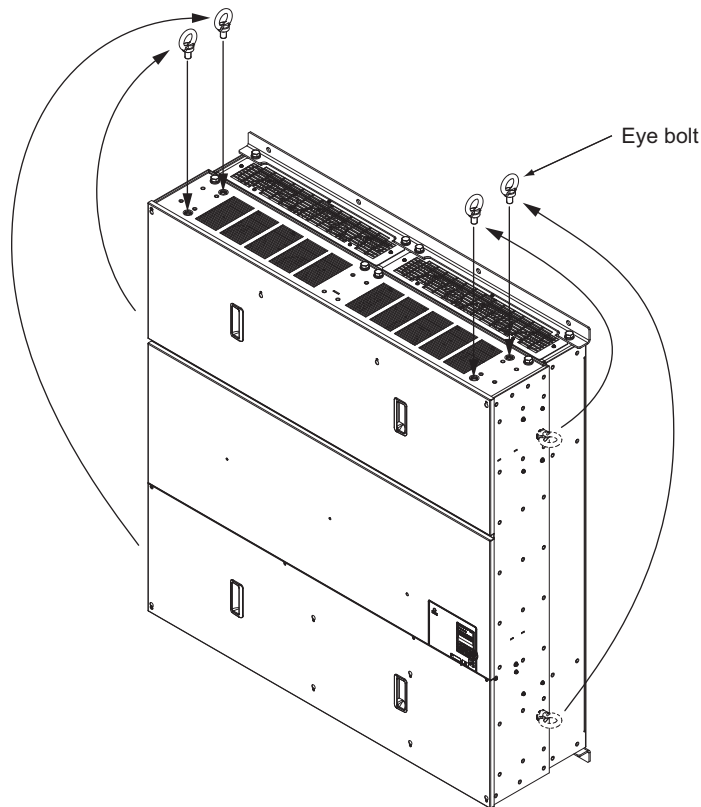

Figure 2.5 Attaching Eye Bolts on Top Panel
1. Remove the four eye bolts from the drive side panels, and fix them securely on the top panel (See *Figure 2.5*).